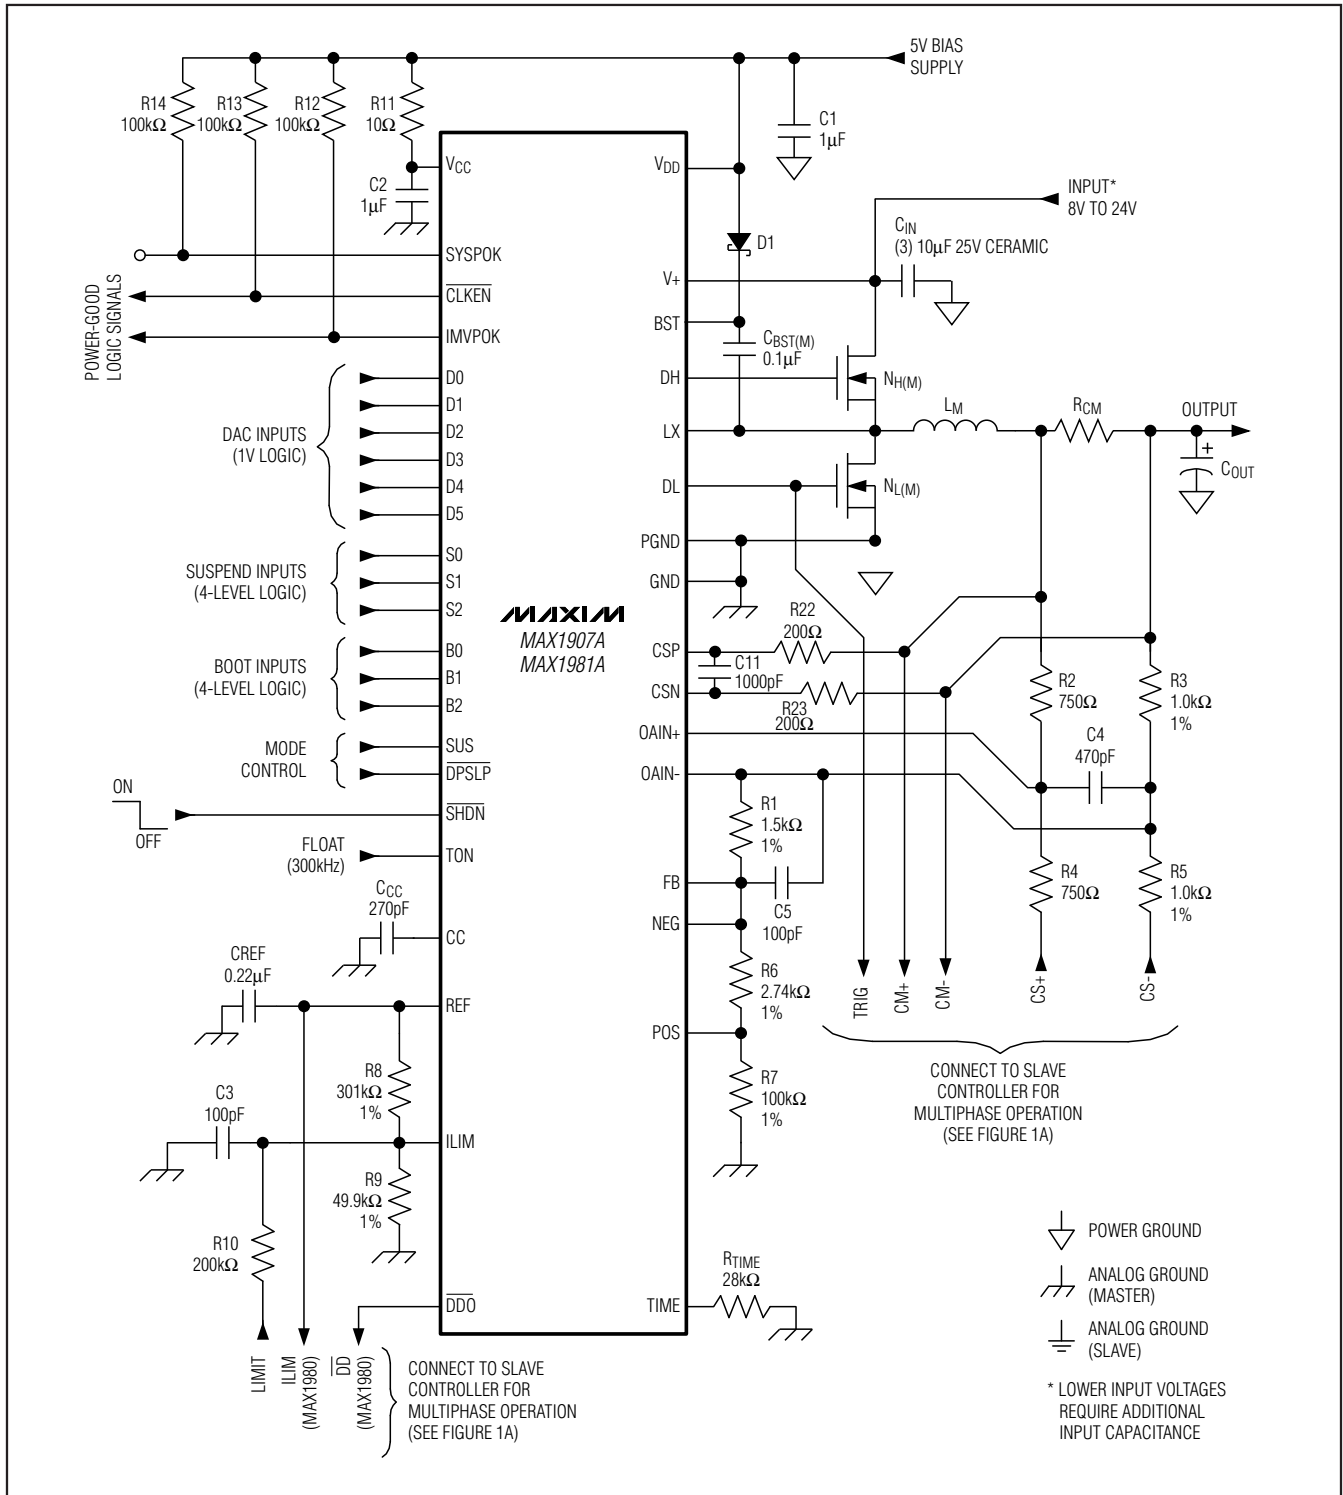
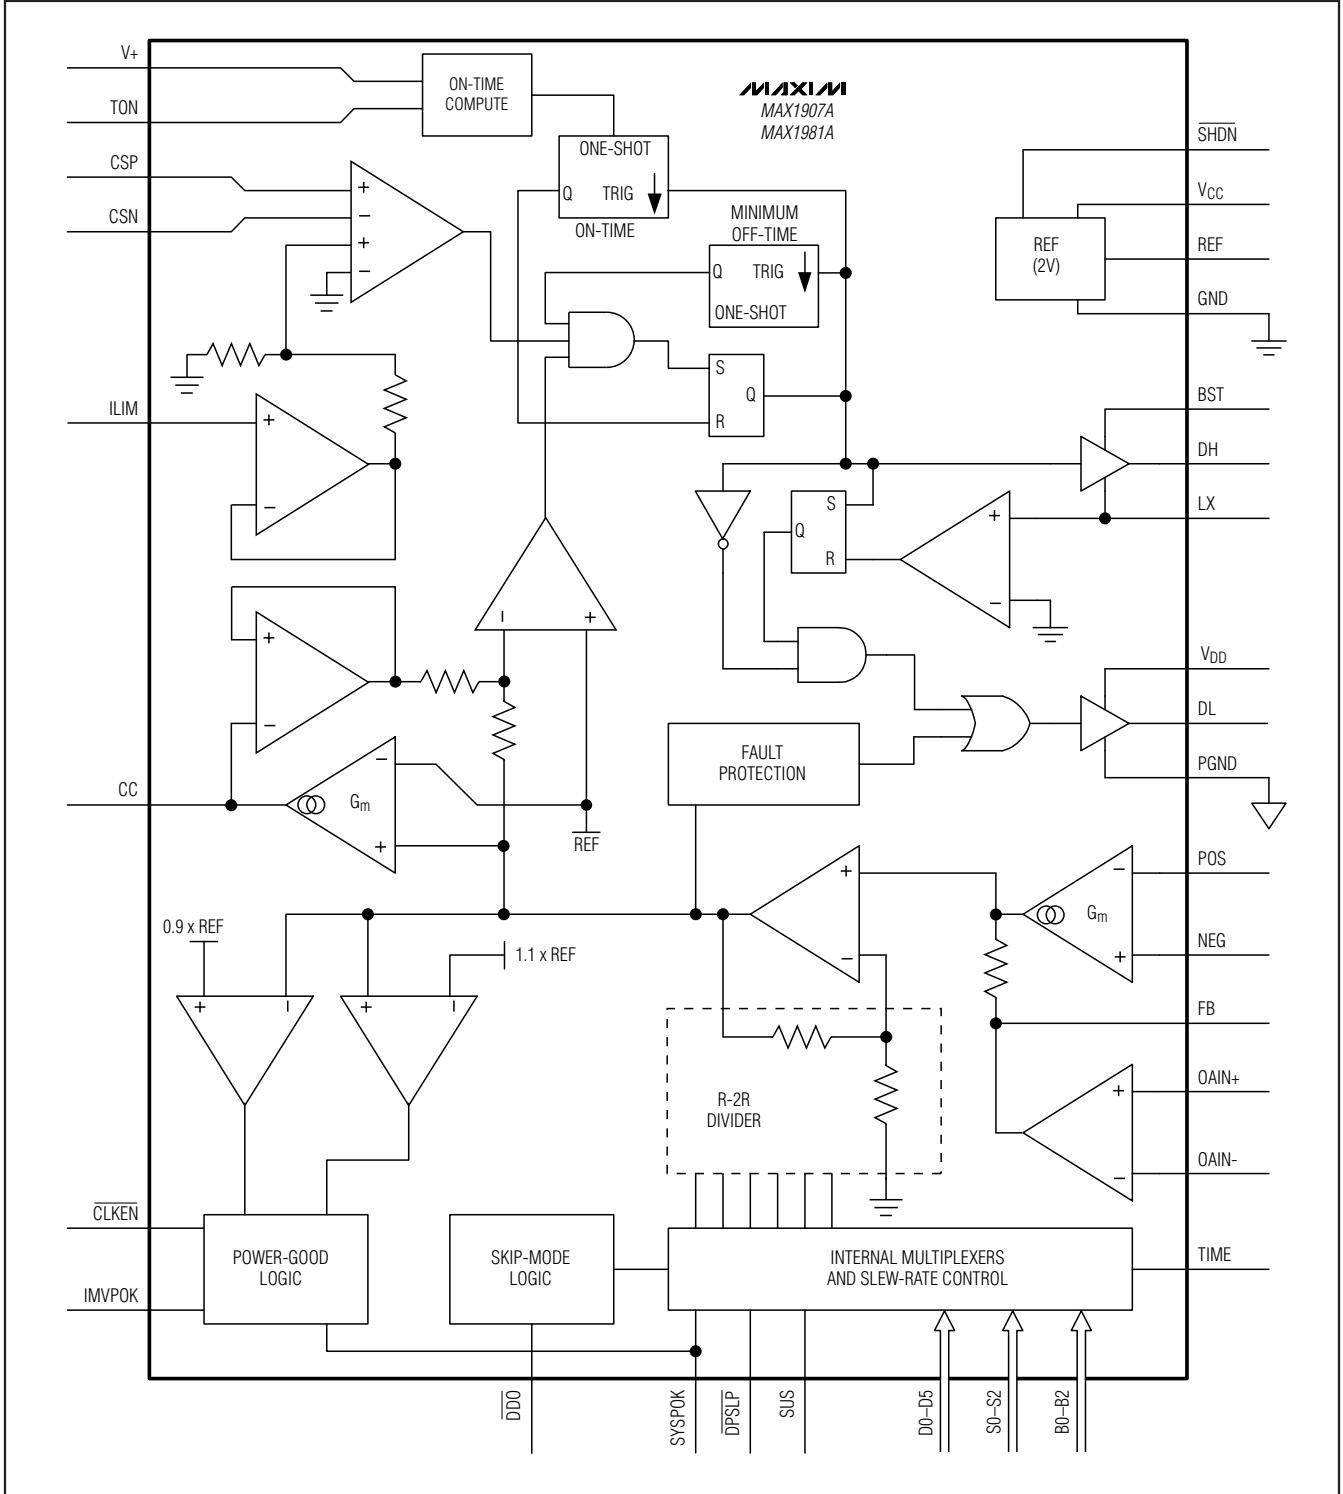

Figure 1. Standard Multiphase Application Circuit
Figure 2. MAX1907A/MAX1981A Functional Diagram
(Circuit of Figure 1,  $V_+ = 12V$ ,  $V_{CC} = V_{DD} = 5V$ , B0–B2 set to 1.276V, S0–S2 set to 0.748V.)
**Table 1. Component Selection for Standard Multiphase Applications (Figure 1)**
The Quick-PWM control architecture is a pseudo-fixed-frequency, constant-on-time, current-mode regulator with voltage feed-forward (Figure 2). This architecture relies on the output filter capacitor's ESR to act as the current-sense resistor, so the output ripple voltage provides the PWM ramp signal. The control algorithm is simple: the high-side switch on-time is determined solely by a one-shot whose period is inversely proportional to input voltage and directly proportional to output voltage. Another one-shot sets a minimum off-time (400ns, typ). The on-time one-shot is triggered if the error comparator is low, the low-side switch current is below the current-limit threshold, and the minimum off-time one-shot has timed out.
Two transconductance amplifiers provide a fine adjustment to the output regulation point (Figure 2). One amplifier forces the DC average of the feedback voltage to equal the VID DAC setting. The second amplifier is used to create small positive or negative offsets to the feedback voltage, using the POS and NEG pins.
The POS/NEG amplifier is used to add small offsets to the VID DAC setting in deep-sleep mode ( $\overline{DPSLP} = \text{low}$ ). The offset amplifier is summed directly with the feedback voltage, making the offset gain independent of the DAC code. This amplifier has the ability to offset the output by  $\pm 200\text{mV}$ . To create an output offset, bias POS and NEG to a voltage (typically  $V_{OUT}$  or REF) within their 0 to 2V common-mode range, and offset them from one another with a resistive divider (Figure 1). If  $V_{POS}$  is higher than  $V_{NEG}$ , then the output is shifted in the positive direction. If  $V_{NEG}$  is higher than  $V_{POS}$ , then the output is shifted in the negative direction. The output offset equals the voltage difference from POS to NEG.
In skip mode (SUS = high, or DPSP = low), an inherent automatic switchover to PFM takes place at light loads (Figure 3). This switchover is effected by a comparator that truncates the low-side switch on-time at the inductor current's zero crossing. The zero-crossing comparator senses the inductor current across the low-side MOSFET. Once VLX - VPGND drops below 4mV (typ), the comparator forces DL low (Figure 2). This mechanism causes the threshold between pulse-skipping PFM and non-skipping PWM operation to coincide with the boundary between continuous and discontinuous inductor-current operation. The load-current level at which PFM/PWM crossover occurs, ILOAD(SKIP), is equal to 1/2 the peak-to-peak ripple current, which is a function of the inductor value (Figure 4). For a battery range of 8V to 24V, this threshold is relatively constant, with only a minor dependence on battery voltage:
The current-limit circuit employs a unique "valley" current-sensing algorithm that uses a current-sense resistor between CSP and CSN as the current-sensing element (Figure 1). If the current-sense signal is above the current-limit threshold, the PWM is not allowed to initiate a new cycle (Figure 2). Since only the "valley" current is actively limited, the actual peak current is greater than the current-limit threshold by an amount equal to the inductor ripple current. Therefore, the exact current-limit characteristic and maximum load
The inverting (OAIN-) and noninverting (OAIN+) inputs are used to differentially sense the voltage across the voltage-positioning sense resistor. The op amp's output is internally connected to the regulator's feedback input (FB). The op amp should be configured as a noninverting, differential amplifier as shown in Figure 1. The voltage positioning slope is set by properly selecting the feedback resistor connected from FB to OAIN- (see the *Setting Voltage Positioning* section). For applications using a slave controller, additional differential input resistors (summing configuration) should be connected to the slave's voltage-positioning sense resistor (Figure 1). Summing together both the master and slave current-sense signals ensures that the voltage-positioning slope will remain constant when the slave controller is disabled.